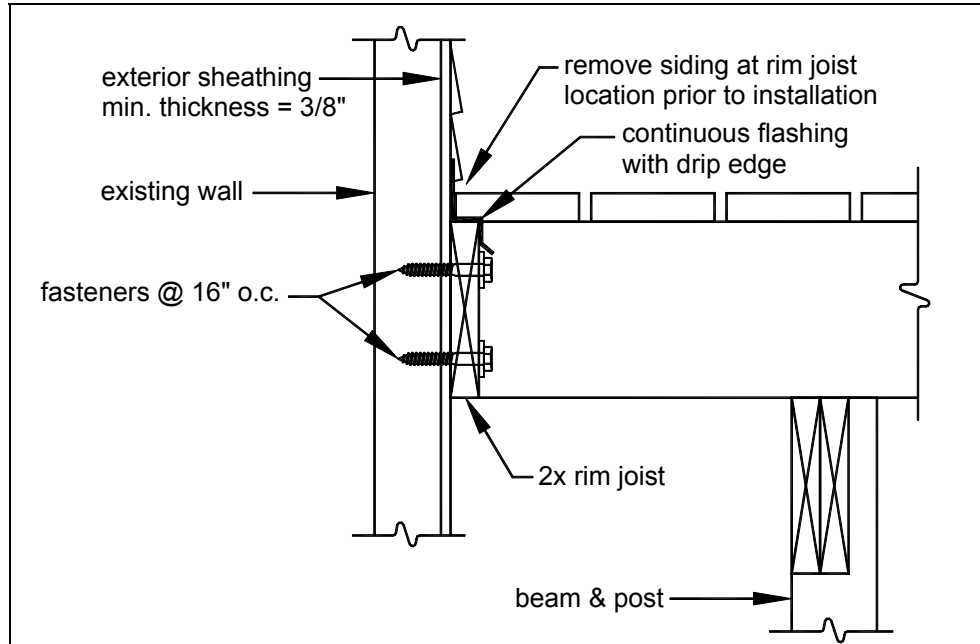

FIGURE 15: ATTACHMENT TO HOUSE LATERAL SUPPORT
2. **Attachment To House:** lateral support is provided by the attachment of the deck rim joist to the existing house as shown in FIGURE 15. The existing exterior wall must have sheathing consisting of structural wood panels with a minimum thickness of $\frac{3}{8}$ ", and the fasteners shall attach to an existing band board or wall stud. The deck rim joist may also attach to a masonry or concrete wall, but not to a brick veneer. YOU MUST VERIFY THIS CONDITION IN THE FIELD PRIOR TO UTILIZING THIS METHOD. Fasteners shall be 16" on center and must penetrate existing wall studs. See also the provisions noted on sheet 6. Flashing over the rim joist is required and must be installed in accordance with the flashing provisions noted on sheet 4. For rim joist size and requirements, see sheet 10.